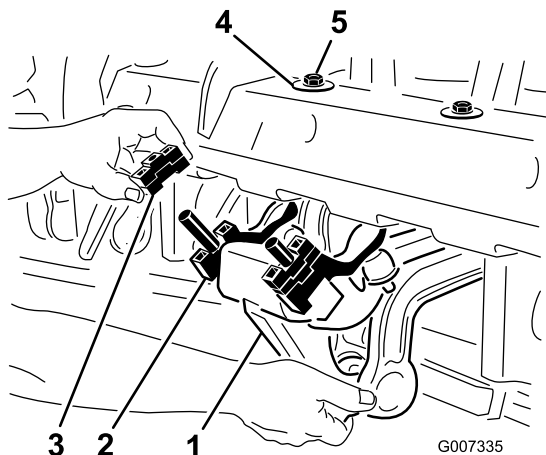

Figure 22
1. Remove the (2) 1/2 inch lock nuts securing the rotalink damper assembly to the underside of coring head frame (Figure 22).
2. Lower the damper assembly to expose the spacers (Figure 22).
4. Reassemble the damper assembly to the coring head frame. Ensure the “D” washer is installed against the coring head frame as shown in Figure 22. Secure the (2) lock nuts.